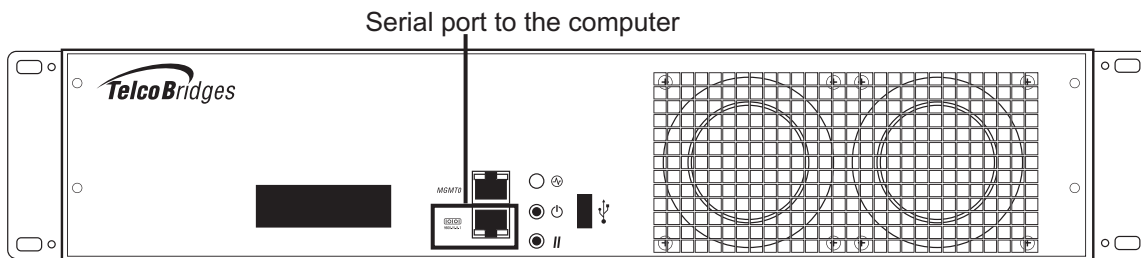

Figure 3.1 Computer to 3200 Series Gateway Serial Port Connection
1. Connect a CAT5 RJ-45 (male-male) cable (supplied with unit) between the com port of your computer and the serial port (labeled 10101) of the 3200 series gateway as shown in Figure 3.1 on page 58. See Section A.2 on page 66 for a RJ-45 console wiring diagram.